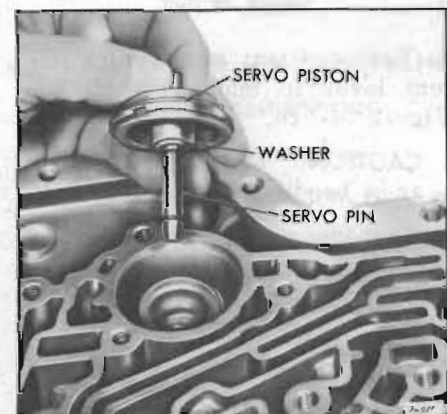

Figure 74-527
9. Remove front servo piston, washer, servo pin, retainer and spring from transmission. See Figure 74-527.